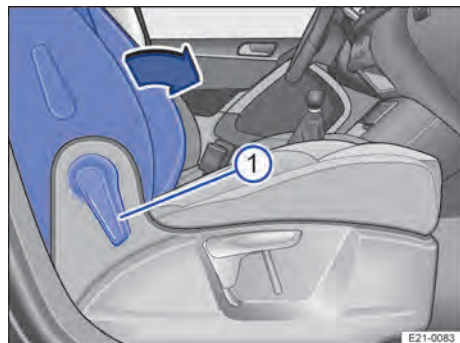

Fig. 62 Front passenger seat: Folding the backrest forwards.
5. Pull the lever → Fig. 62 ⓘ forwards to unlock the front passenger seat backrest.
6. Fold the front passenger seat backrest forwards in the direction of the arrow → Fig. 62 until it is horizontal.